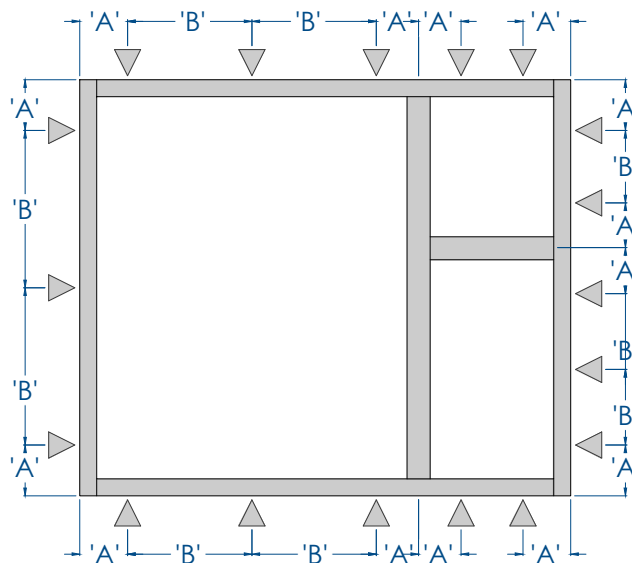

**FIG. 3**
- Shim solidly between window and building substrate. **See FIG 3.**
- Fasten with appropriate screw. **See FIG 3.**